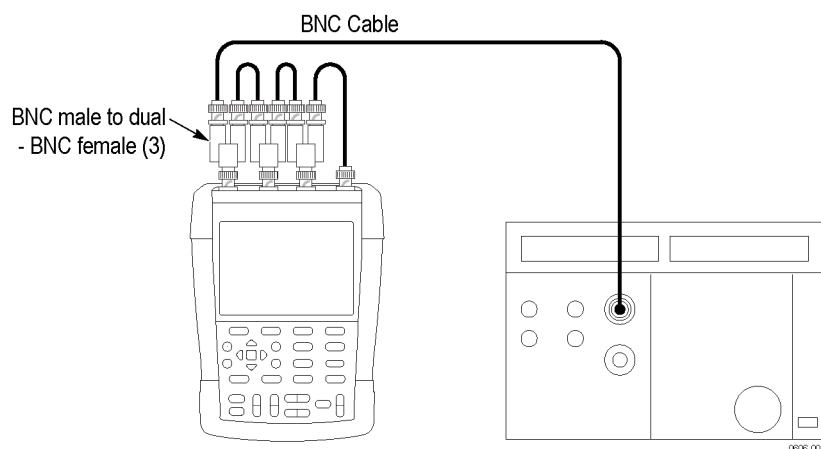

Figure 4: Frequency measurement accuracy test setup
1. Connect the test setup as shown. (See Figure 4.)
1. Connect the test setup as shown in the previous test. (See Figure 4 on page 11.)